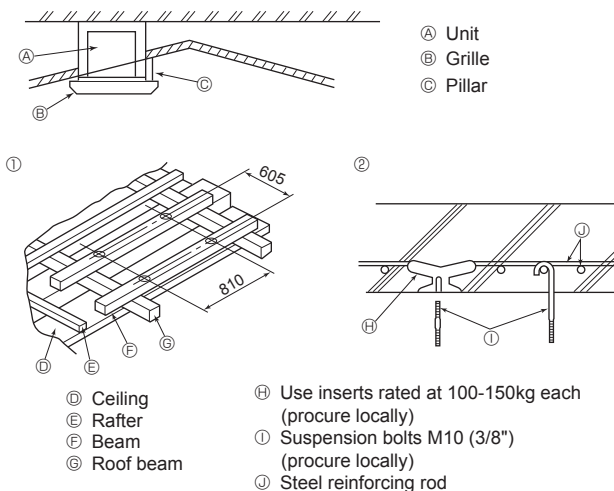

Fig. 2-4
- (G) 14-ø2.8 burring hole
- (H) ø150 cut out hole
- (I) ø175 burring hole pitch
- (J) Fresh air intake hole diagram
- (K) 3-ø2.8 burring hole
- (L) ø125 burring hole pitch
- (M) ø100 cut out hole
- (N) Ceiling
- (O) Detailed figure of removing the insulator
- (P) Insulator
2.4. Suspension structure (Give site of suspension strong structure) (Fig. 2-4)